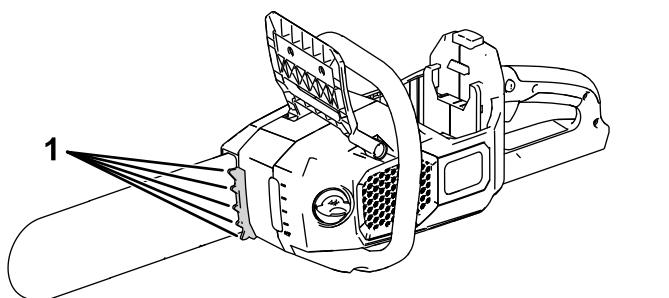

Figure 12
**Note:** You can use the bucking teeth (Figure 12) to apply light pressure.